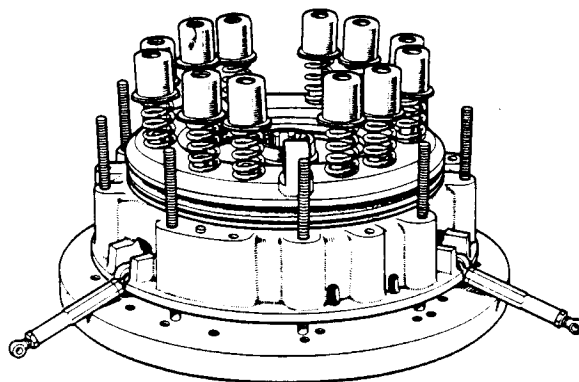

Figure 26. ASSEMBLING TRANSMISSION CLUTCH
4. Fit the dark blue/light green thrust springs on pressure plate and, after lightly smearing the inside of cover apertures with anti-scuffing paste, align assembly marks and place cover over springs, taking care that the cover does not bind on the pressure plate lugs. Screw a nut, with a flat washer underneath, on each of the nine long bolts. Tighten nuts evenly and by diametrical selection, until the assembly is clamped firmly against baseplate. Replace and fully tighten the short bolts attaching cover to separator housing. (Fig. 26.)